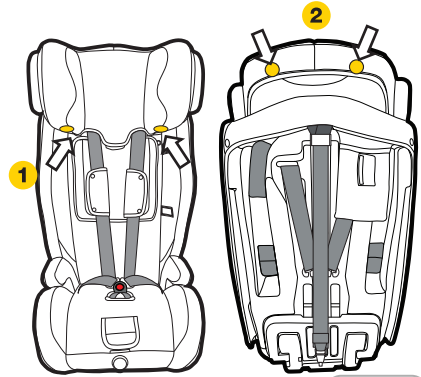

Figure 1
**Step 1:** Raise the headrest to highest position (refer Figure 1).